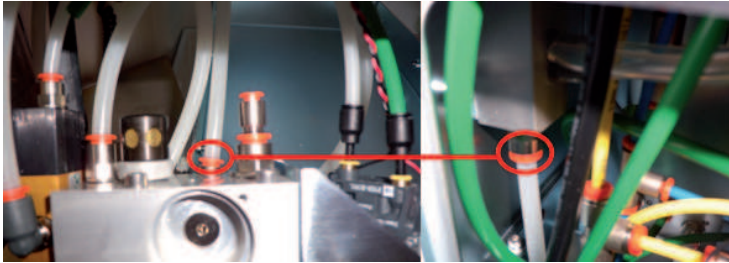

Figure 94 - Location of 8 mm Tubing
5. Remove the 8 mm tubing, indicated in Figure 94, that is routed to the flow sensor block assembly.